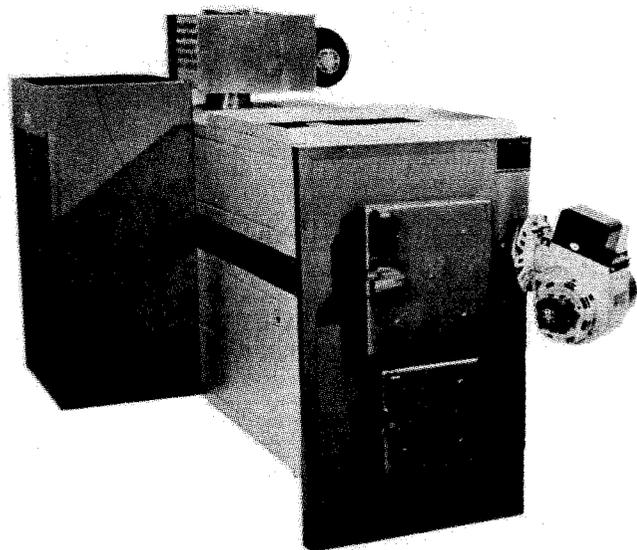

Fig. 83. Longwood wood/oil or wood/gas furnace.
16. **Longwood Furnace Corp.** (manufacturer), Rt. 2, Box 223, Gallatin, MO 64640. A built-in flue-heat reclaimer on the Longwood (Fig. 83 and Table 10) extracts heat from hot gases as they pass over 35 heat tubes. A thermostatically controlled blower forces fresh air through the heat tubes and, according to the manufacturer, reclaims as much as 30,000 Btu. Oil or gas (LP or natural) power burners are available as standard equipment and are interchangeable. Air-conditioning units up to 4 tons can be accommodated. The Longwood's combustion chamber is designed to slow the burning process, providing more complete combustion at lower flue temperatures. Manufacturer claims its "unique, no-draft" system converts wood to charcoal, and in the process generates and burns combustible gases to attain an efficiency of up to 75 percent while controlling overheating. Solid fuel and liquid or gaseous fuel are combined in the same combustion chamber. The oil or gas burner fires directly onto the wood without applying a draft of additional air, thus converting the wood into charcoal. The wood remains as slow-burning charcoal between burning cycles, providing even heat with minimal heat-loss. The nearly complete combustion leaves only a small amount of ash. A roller inside the feed door allows ease of loading large logs. Wood provides about 75 percent of the heat during the firing cycle, and the furnace is capable of providing heat during power failures.